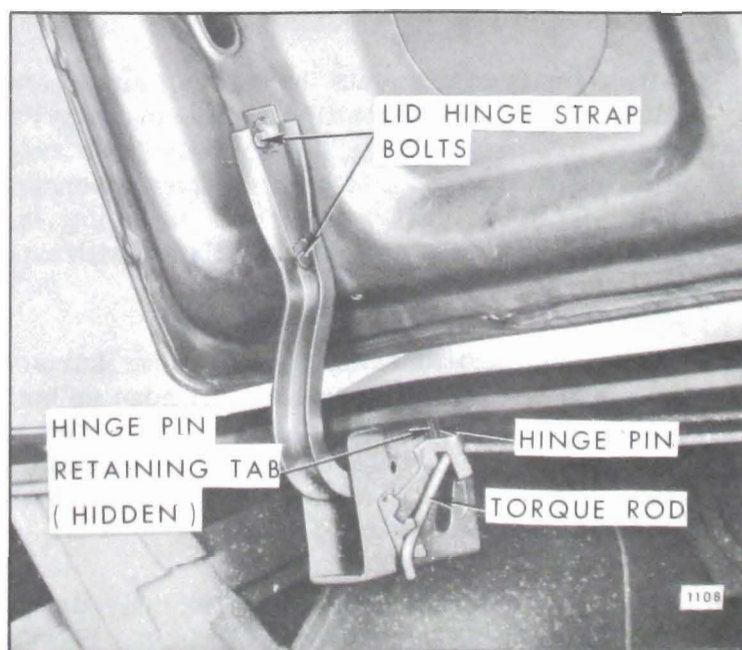
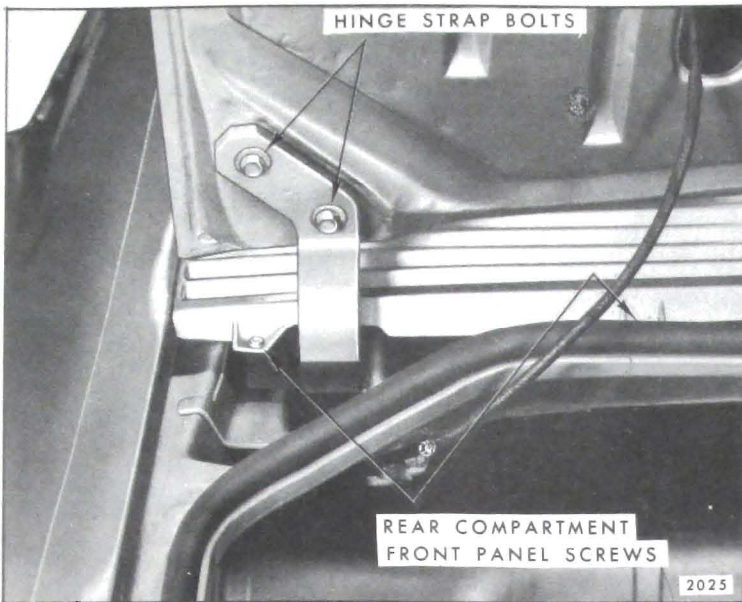

Fig. 9-4—Rear Compartment Lid Attachment
Fig. 9-5--Rear Compartment Lid Attachment
5. With the aid of a helper, remove lid attaching bolts and remove lid (Fig. 9-4 for "A, B, C & X" Styles, Fig. 9-5 for "E" Styles).
1. Raise rear compartment lid and remove lower screws of panel (see Fig. 9-5).
The amount of effort required to open and close the rear compartment lid is determined by the position of the torque rod in the notches on the inboard face of the hinge boxes. If the torque rod is located in the lowest notch, the amount of effort required to open the lid is the greatest and the amount of effort required to close the lid is the least. If the torque rod is located in the top notch, the amount of effort to open the lid is the least and the amount of effort to close the lid is the greatest (Fig. 9-4).